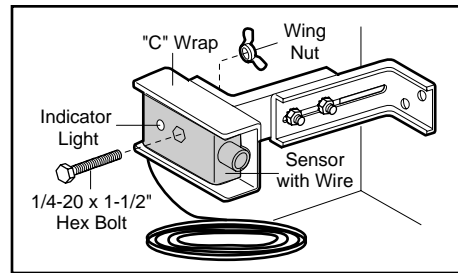

Figure 6
7. Center each sensor unit in a "C"- wrap with lenses pointing toward each other across the door (see Figure 6).